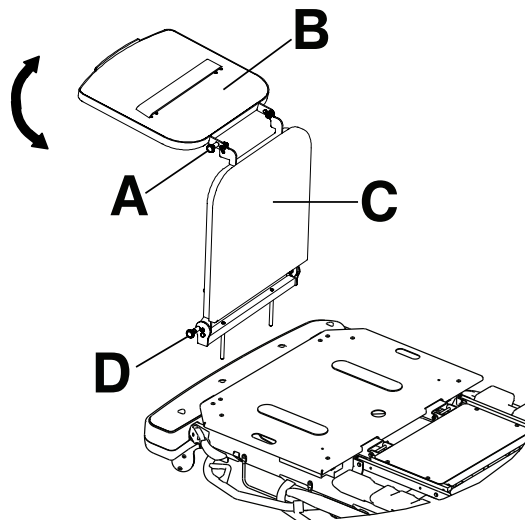

Figure 22 – Defibrillator tray/foot extender
1. Pull out the top knob (A) (Figure 22).
2. Pivot the defibrillator tray (B) until the tray is flat over the foot end of the product. Release the top knob (A). Make sure that the defibrillator tray is locked in place.
To convert the defibrillator tray/foot extender to a foot extender (Figure 22):